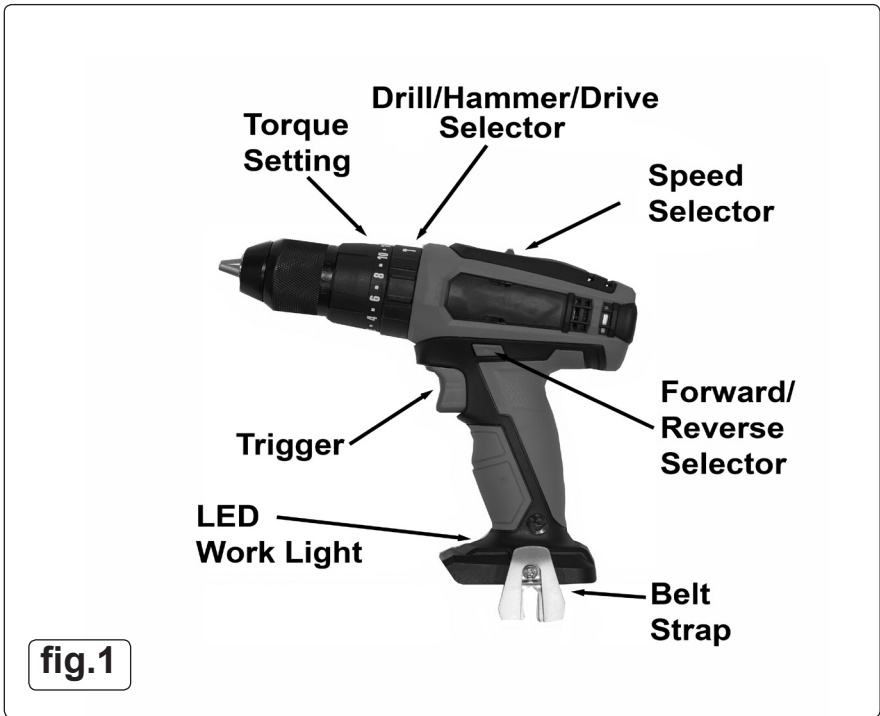

fig.1
- 4.2. **Using the drill (fig.1)**